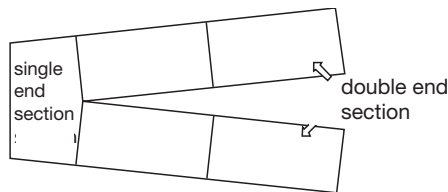

Figure 1
2. Place single end section table upside down onto a soft surface. See figure 1.
2. Place table upside down onto a soft surface. As shown in Figure 1, invert and position the bases onto the underside of the table and align the metal base plates with the inserts in the underside of the top. **THE BLACK PLASTIC EXTRUSION FACES TOWARDS THE CENTER OF THE TABLE.**
4. Assemble the tite-joint fastener as shown in figure 1. Install assembled tite-joint with machining in table sections.